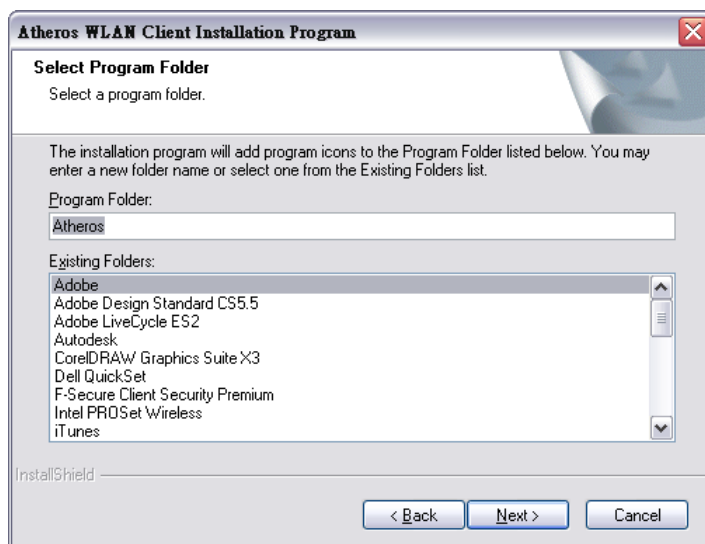

Figure 6-34: Wireless Driver – Select Program Folder
Step 9: The Select Program Folder window appears (**Figure 6-34**). Enter a new folder name or select one from the Existing Folder list. The default folder is recommended.